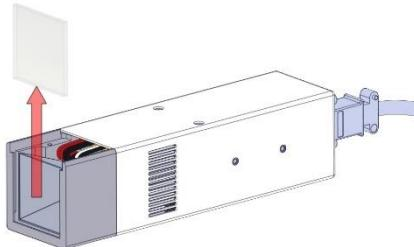

Figure 3
4. Slide the damaged glass cover out (Figure 3), taking care not to touch the metallic reflector surfaces.